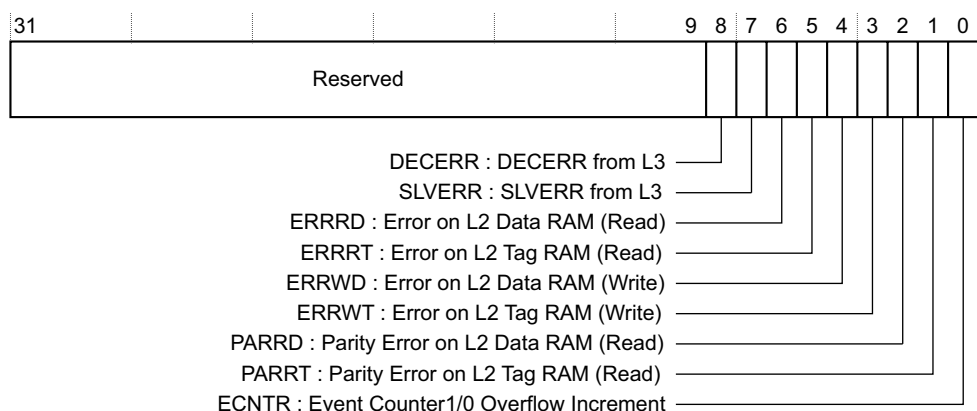

Figure 3-8 Interrupt Register bit assignments
Figure 3-8 shows the register bit assignments.
- Purpose** This register enables or masks interrupts from being triggered on the external pins of the cache controller. Figure 3-8 on page 3-17 shows the register bit assignments. The bit assignments enables the masking of the interrupts on both their individual outputs and the combined **L2CCINTR** line. Clearing a bit by writing a 0, disables the interrupt triggering on that pin. All bits are cleared by a reset. You must write to the register bits with a 1 to enable the generation of interrupts.